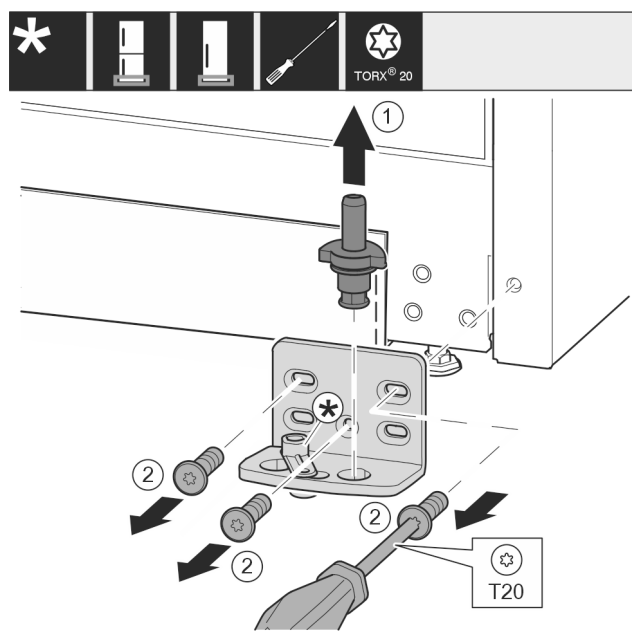

Fig. 14
- ▶ Completely pull out the bearing pin Fig. 14 (1) upward.
- ▶ Use a screwdriver to unscrew the screws Fig. 14 (2) and remove the swap bearing block.